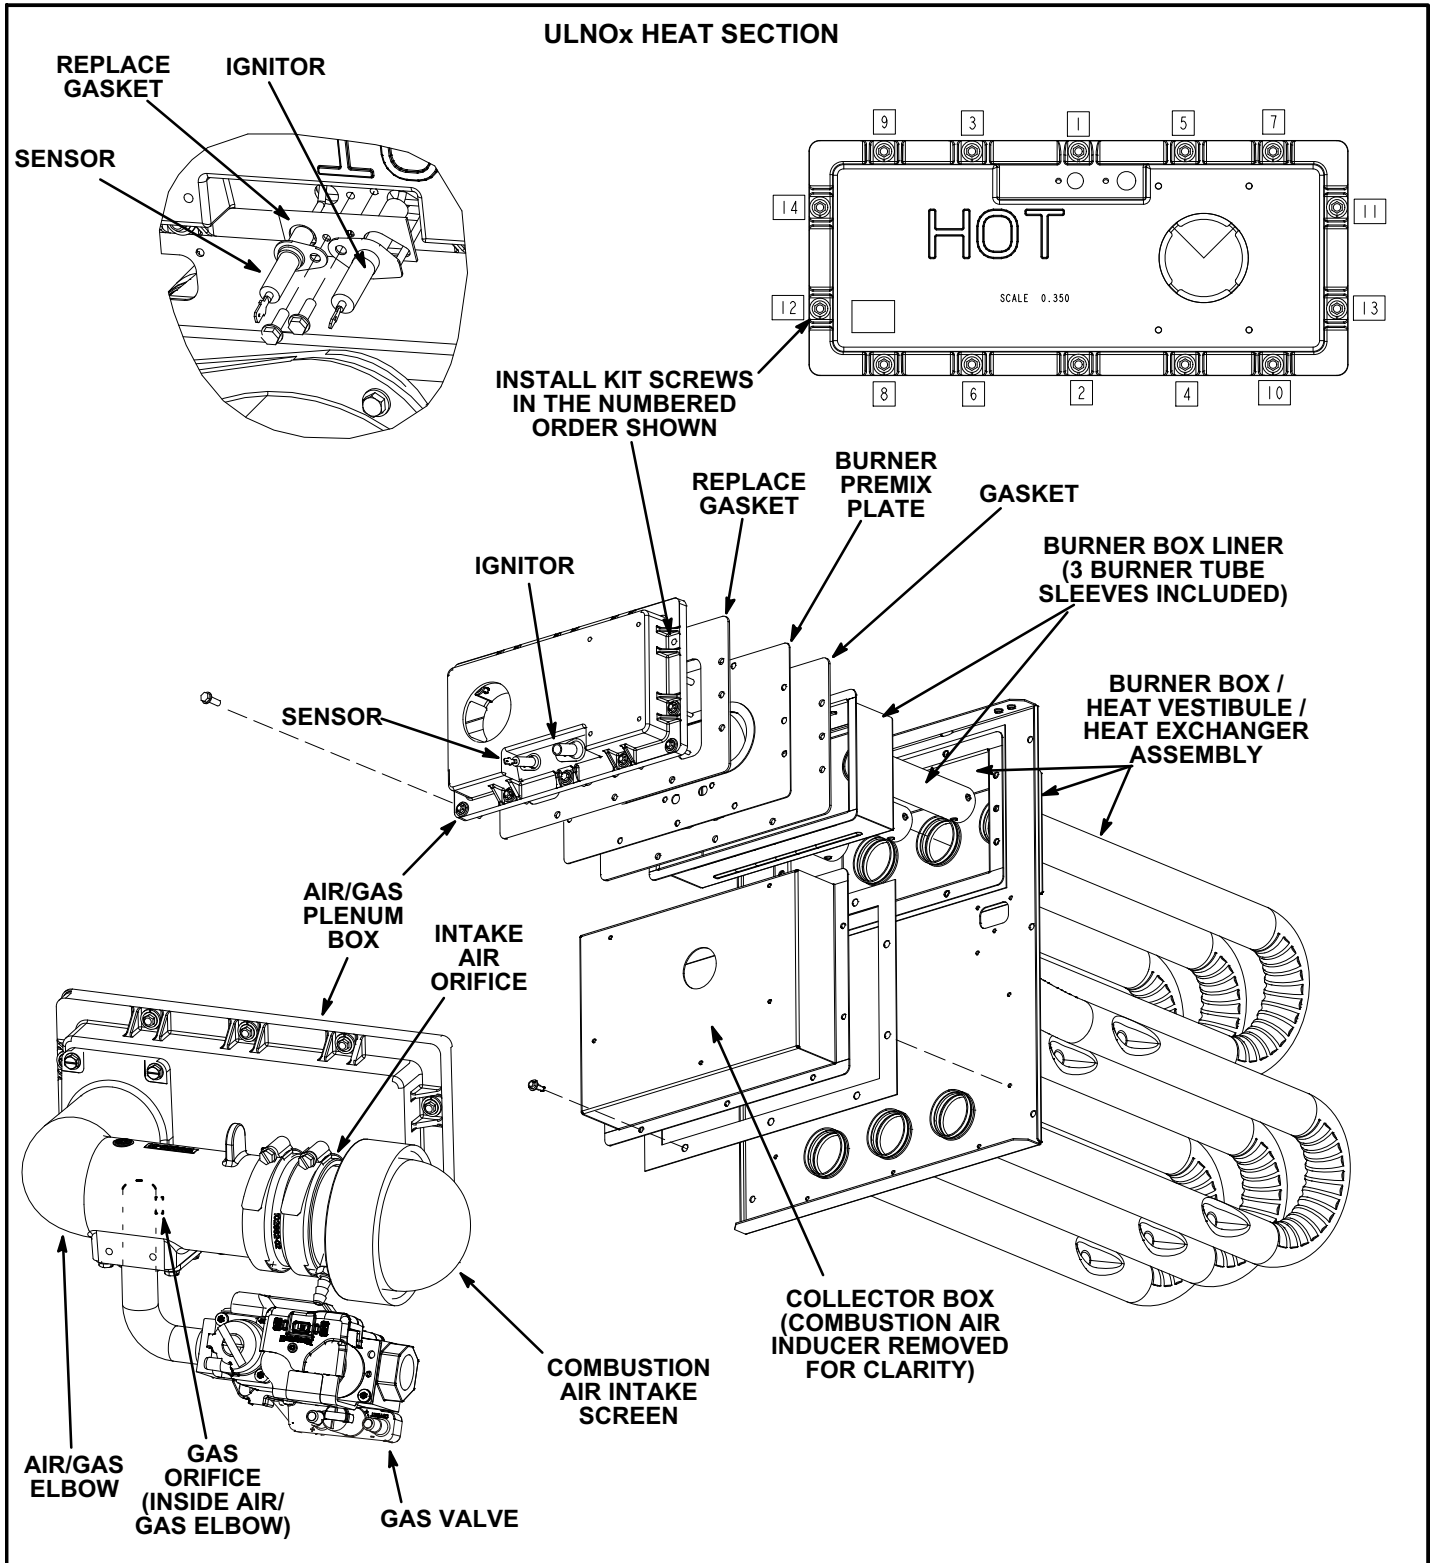

FIGURE 1
See figure 1.
- 8- Install the provided air / gas plenum box *with the provided gasket and screws*. Make note of the numbered sequence when installing the air / gas plenum. Follow the sequence as shown in Figure 1. **Torque screws to a maximum of 100 + 5 in - lbs. and a minimum 60 in - lbs. Re-torque the screws using the same procedure, then repeat once again.**
- 9- Reinstall the flame sensor and ignitor electrode with the provided gasket and retained screws. See figure 1. **Torque screws to 25 +/- in - lbs. Re-torque the screws using the same procedure and repeat again.**